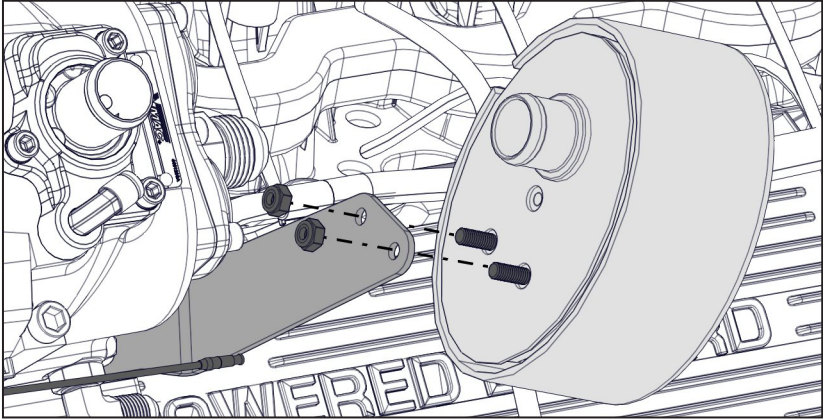

Figure 43 — Mount VMAC air filter
- Mount the VMAC air filter assembly onto the air filter bracket (Figure 43).